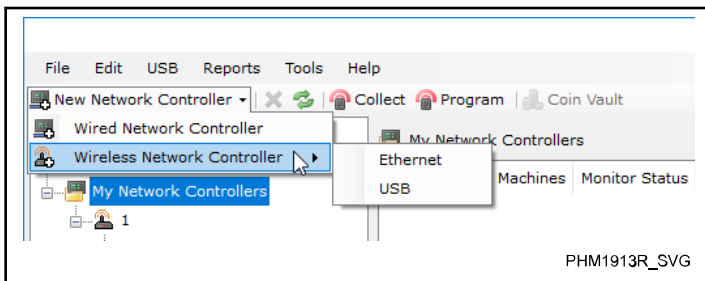

Figure 87
c. From the drop-down list, click either **Wired Network Controller** or **Wireless Network Controller**. Refer to *Figure 87*. The "New Network Controller" window appears.